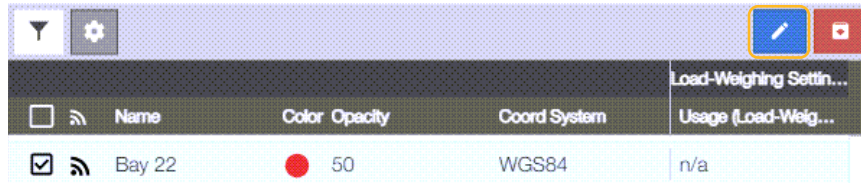

Figure 4-3: Sitelink3D Region Selected
2. Select the appropriate region checkbox (Figure 4-3).